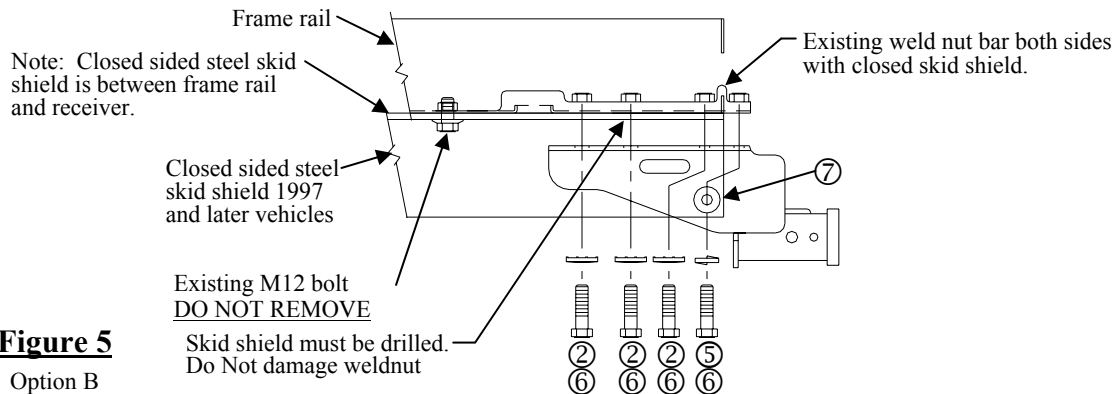

Figure 5
Option B – See Figure 5
- Install four (4) M12 bolts with conical washers provided (the rearmost attachment has a hardened flat washer between receiver flange and lock washers), each side as shown in Figure 5.